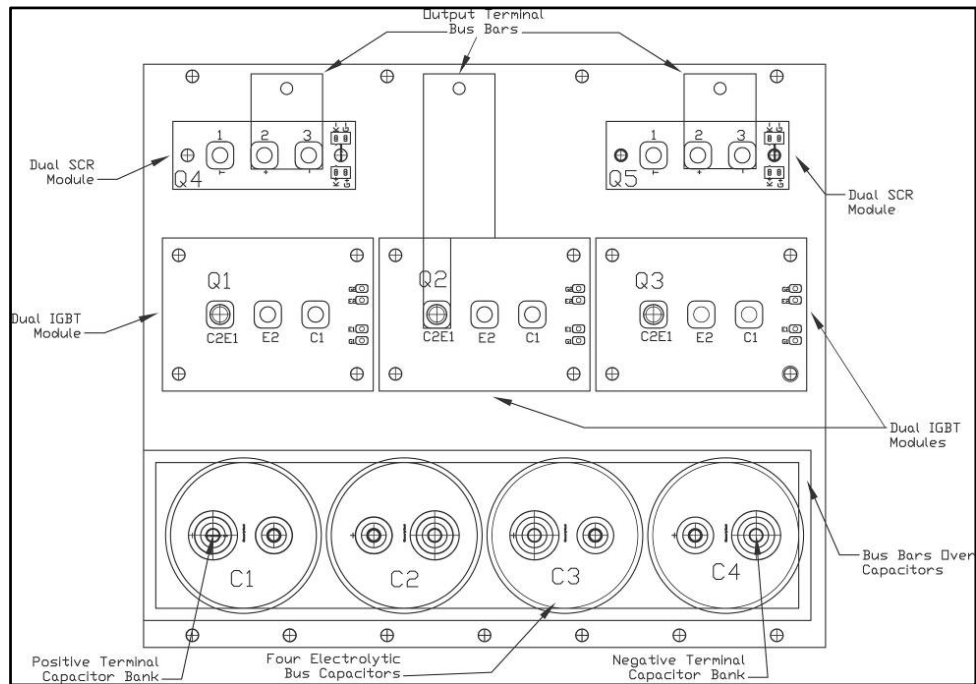

Figure 5.6: (600V) 39, 78, 150 Amp & (480V) 45, 90, 100, 150, 200 Amp Power Component Layout
- Measure resistance of power semiconductors using a multi-meter set on the diode check setting, see Figure 5.6. Look for opens, ∞ , or dead short readings. With the red lead of your meter connected to the far right negative terminal of the capacitor bank, measure with the black lead of the meter to each of the three output terminals (bus bars), the reading should be approximately 0.35Ω . Reverse the meter leads and repeat measuring to each terminal. This time a low reading will be present which will continue to increase; this is an indication of a capacitor charging. Next connect the black meter lead to the “positive capacitor terminal” and again measure to each of the output terminals with the other lead; the reading should be approximately 0.35Ω . Reverse the meter leads and repeat measuring to each terminal. Again it will be a low reading which will continue to increase. If the readings are as described, in all likelihood the power semiconductors are good. If any readings are opens or dead shorts it will be an indication that something is bad in the power section. Do not reapply power if you are not sure the IGBT’s are good.